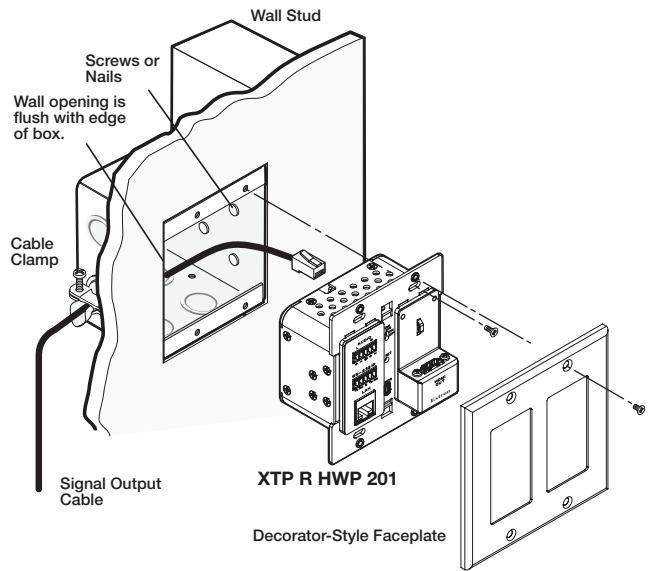

Figure 2. Metal Junction Box Installation
NOTE: Install junction boxes against a wall stud (see figure 2).
- **UL Listed metal junction box** — Use mounting screws to fasten the box to a wall stud (see figure 2).
- Using the provided screws, attach the XTP R HWP 201 to the mud ring or metal junction box through the inner screw holes (see figure 2 or 3 on the previous page).
- Using the provided screws, attach the faceplate to the XTP R HWP 201 through the outer screw holes (see figure 2 or 3).